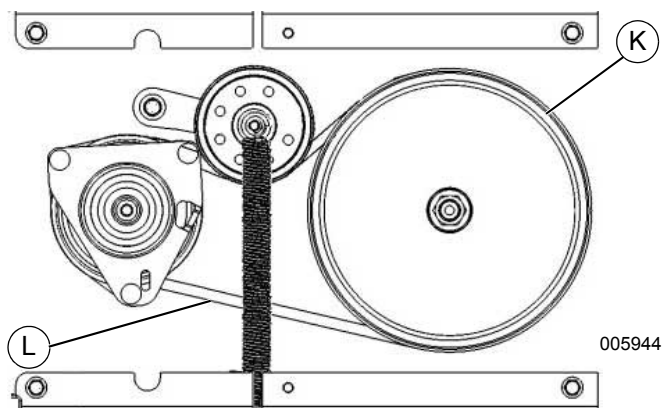

Figure 4-12. Drive Belt and Pulley
- See Figure 4-12. Rotate blade pulley (K) counter clockwise, and roll drive belt (L) up and over the blade pulley.